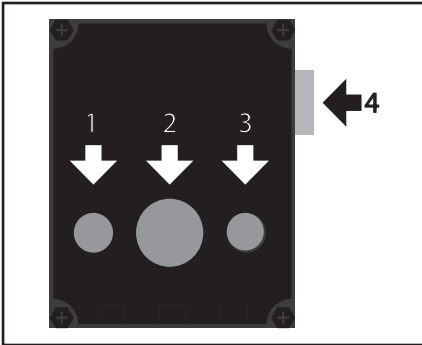
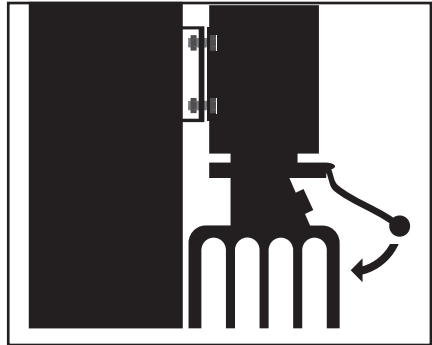
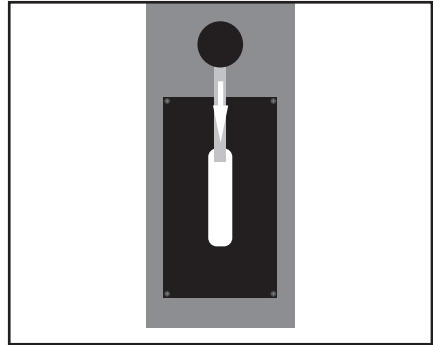

Fig. 26
Fig. 27
Fig. 29
2. Turn power main switch (4, Fig. 26) from 'off' to 'on', green light (1, Fig. 26) is now lit.
3. Press HEF button (3, Fig. 26), lift the vehicle to a height of 1 metre.
5. Press HEF button (3, Fig. 26) and lift vehicle to desired height.
Release HEF button (3, Fig. 26), lift will remain in place.
1. Push the lowering lever down (Fig. 27) until the lift is hanging in the lock.
1. Lift the lift bridge slightly upwards (3, Fig. 26), then press lever (Fig. 29) downwards so that the lock comes into free position.
2. Hold lever (Fig. 29) in lower position and hold lever for lowering (Fig. 27) until lift is fully lowered.
8. During an emergency, switch off the power using the emergency stop (2, Fig. 26).